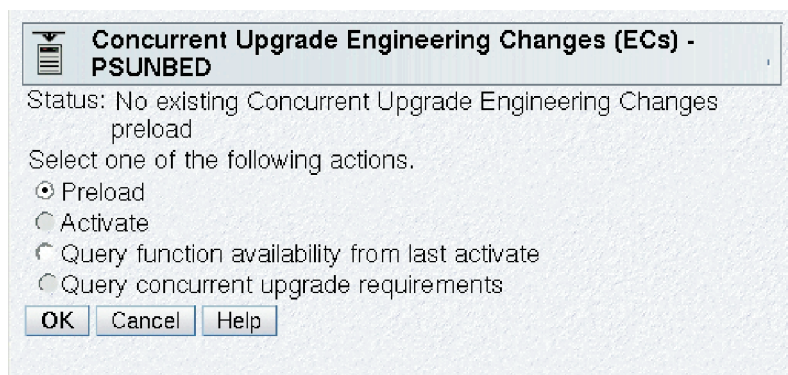

Figure 52. Concurrent upgrade engineering changes (ECs) task window
2. Open the **Concurrent Upgrade Engineering Changes (EC)** task. The Concurrent Upgrade Engineering Changes window is displayed as shown in Figure 52 on page 210.